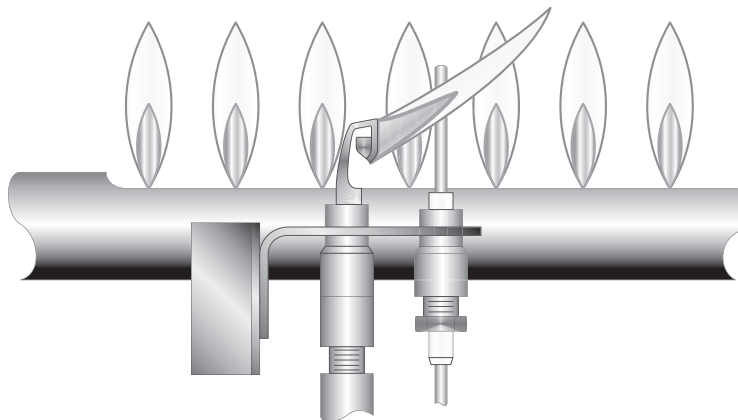

Figure 8.1: Pilot and Burner Flames
7. Check the burner and pilot flames (see Figure 8.1). The flame inner cone should be about 1-1/2" high and should have a very sharp blue color. Poor flame conditions can be caused by dirty burners, obstructed orifices or incorrect gas pressure.